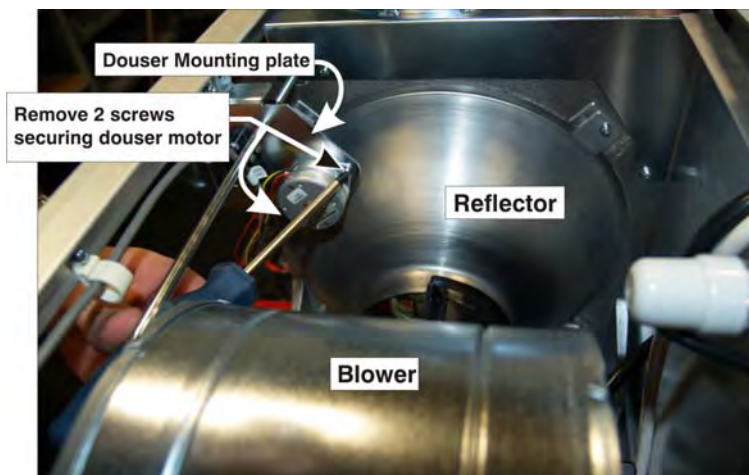

Figure 5-41 Douser Motor
4. Remove two, #2 Phillips™ screws securing the Douser Motor to the mounting bracket. A short stubby screwdriver is recommended to reach the screws (**Figure 5-41**).